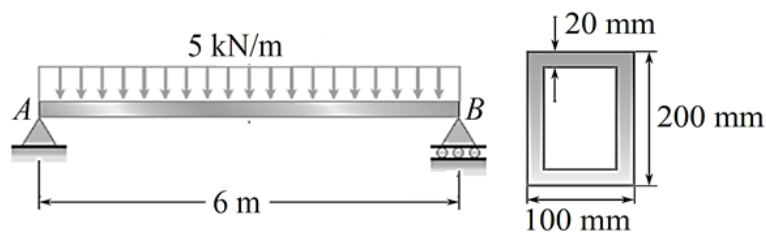

Figure 3(b) / Rajah 3(b)
- CLO2 (b) A symmetrical composite beam, 6 m long as depicted in Figure 3(b), is simply supported at both ends *A* and *B*.